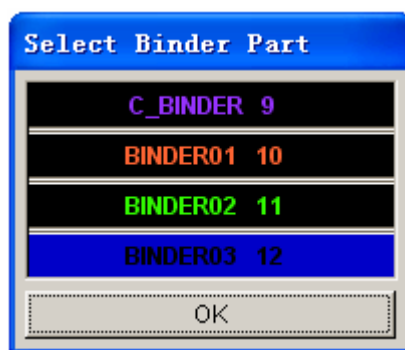

Figure 6.2.10 Select Binder dialog box
When more than one binder is available in the database, the user can click the SELECT BINDER PART button to select a specific binder from the SELECT BINDER dialog box as illustrated in Figure 6.2.10.
2. Translate the binder by dragging the SLIDER bar as illustrated in Figure 6.2.10. If the bar is slid to the right, the binder will be translated in the positive direction along the selected axis and vice versa. Click on the APPLY button to accept the new binder position.